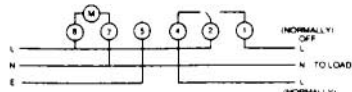

Figure 1
- f. For mains switching connect the supply to the terminals according to the wiring diagram noting that a link is required between 2 and 8 because the contacts are voltage free (see fig 1).
- d. Connect the leads to the baseplate according to the wiring diagram (fig 1) and refit the base plate to the timeswitch minus the terminal cover.